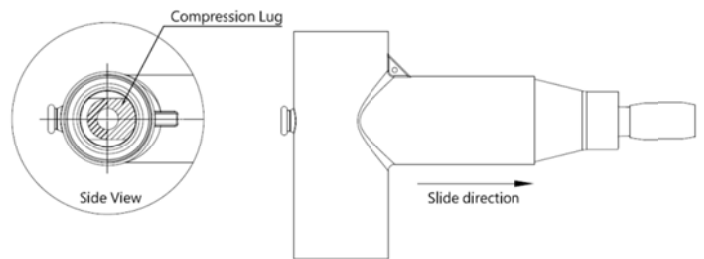

Fig. 12
Step 12. Clean the outer surface of adapter and the cable interface of front t-body by clean paper. After cleaner evaporate, lubricate the outer surface of adapter and the cable interface of front t-body by silicone lubricant. Slide front t-body down the adapter as Fig. 12.